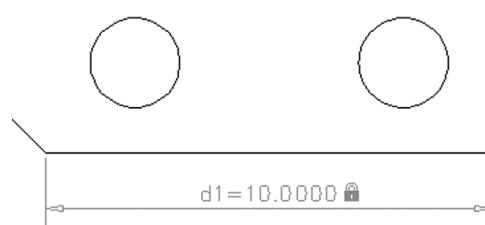

FIGURE 13.21 Dimensional constraint.
Step 4. Locate the dimensional constraint some distance away from the part, similar to a regular dimension. AutoCAD displays the value (d = 10.0000) with a graphic of a lock, as seen in Fig. 13.21. Press Enter.